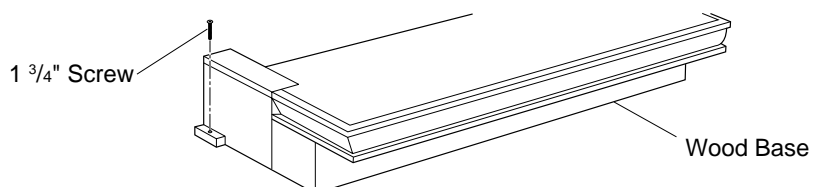

Figure 13 - Attaching Wood Base to Floor
10. Attach wood base to floor with two 1 3/4" black screws provided (see Figure 13). If the floor is concrete use anchor method (see *Attaching Wood Base to Solid Floor*, page 14).
15. Adjust assembly to remove any gaps. Attach remaining two 3" wood screws inside of fireplace sides into the mantel. The openings are located at top behind the area for the brass louvers (see Figure 13).